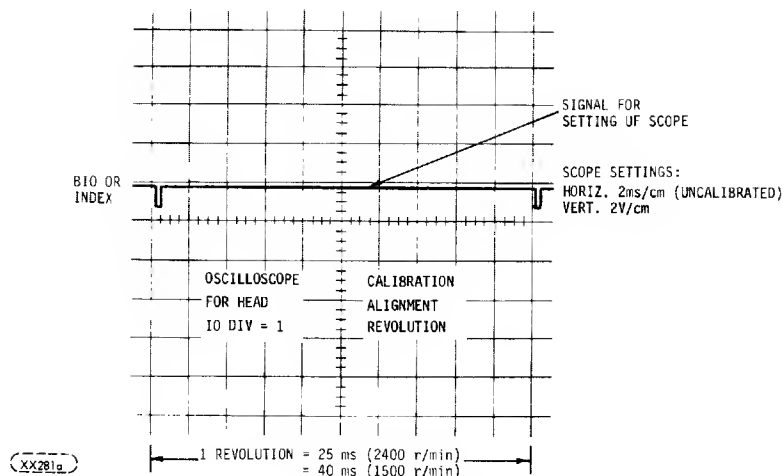

FIGURE 6-19A. HEAD ALIGNMENT SCOPE SETTING
21. Also monitor this signal and set up oscilloscope to indicate one complete revolution. Horizontal setting will be 2 ms/cm uncalibrated (see Figure 6-19A).